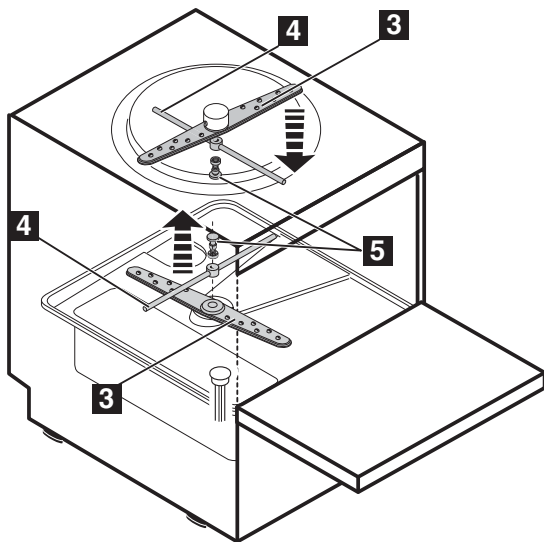

Figure 15 Cleaning the washer and rinse arms
- Removal of the washing "3" and rinsing arms "4" (Figure 15).